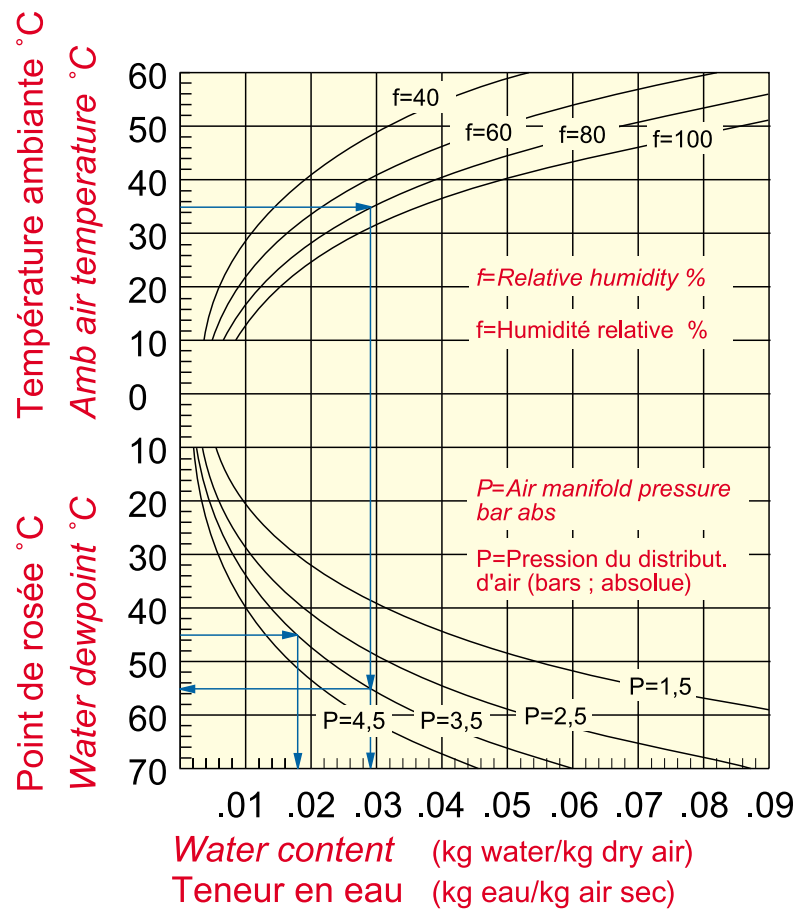

Fig. 03-1
- At loads greater than 60% of the nominal power, the turbocharging air temperature should, in principle, be as low as possible. However, not low enough to cause condensation. See Figure 03-1). At loads less than 40% of the nominal power, it is better to have the highest possible supercharging air temperature.